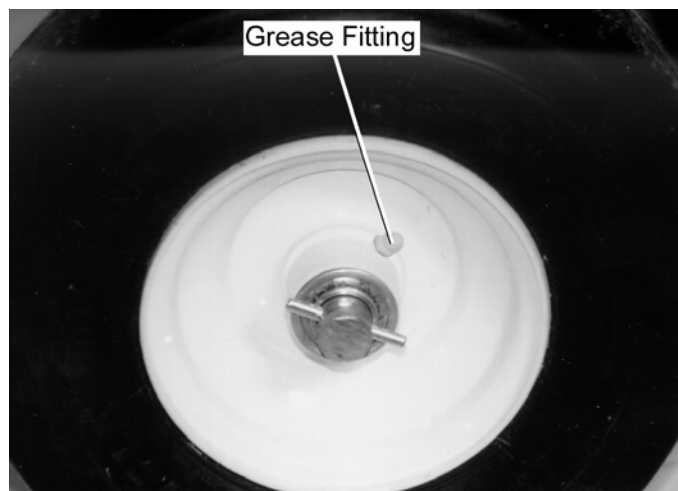

Figure 11
1. Grease the fittings on the front caster wheels (*Figure 11*).